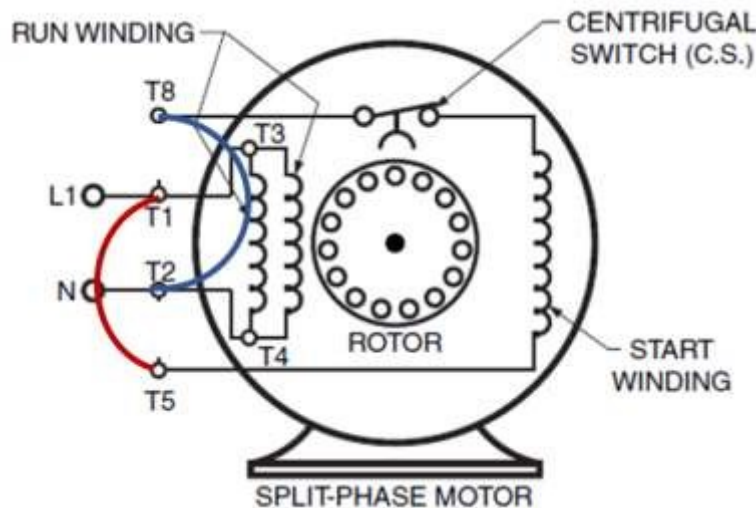

Figure 4: Reversing the start winding to change direction of rotation
3. Reverse the start winding with the intent of reversing the direction of rotation of the shaft. Notice the start winding is T5 & T8. Originally they were connect to the run winding by T5 & T2 connected, and T8 & T1 connected. Now change this to: T5 & T1 connected, and T8 & T2 connected (See figure 4).